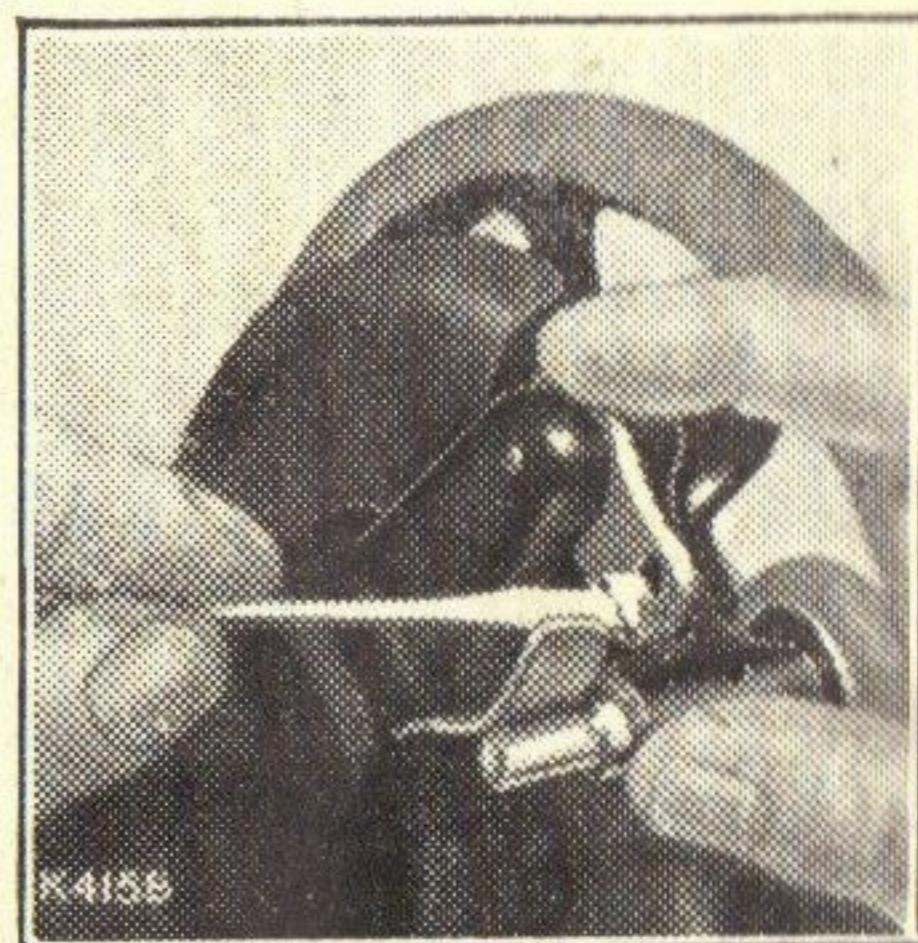

Fig. 3a.
If the pressure of the pulley (6) against the ledge of the balance wheel is insufficient for winding the bobbin, press down the winder until the latch (4) drops down and holds it, then loosen the screw (5). With the forefinger push back the upper end of the slotted plate (see Fig. 3a) as far as it will go and at the same time, with the thumb, press the winder against the ledge of the wheel. Then tighten screw (5) securely. Afterwards raise the latch to release the winder from contact with the balance wheel.